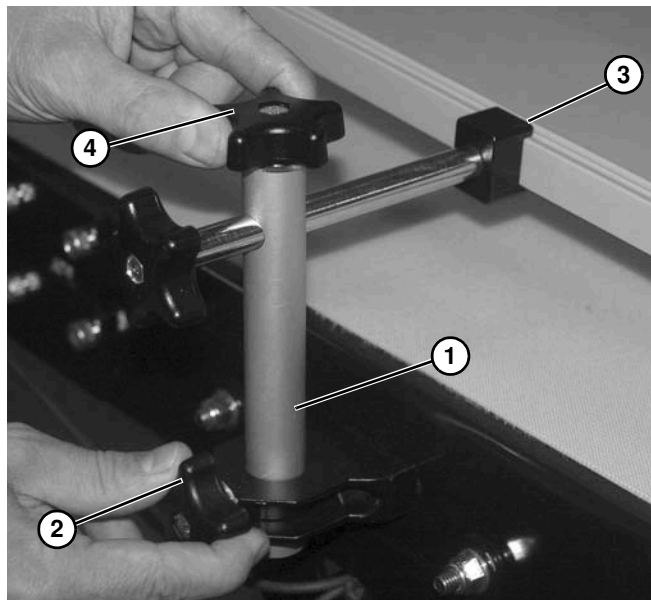

Figure 50
7. Adjust height of guide mounting shaft (**Figure 50, item 1**) and tighten lower knob (**Figure 50, item 2**).
8. Adjust horizontal position of rail (**Figure 50, item 3**) on conveyor and tighten upper knob (**Figure 50, item 4**).